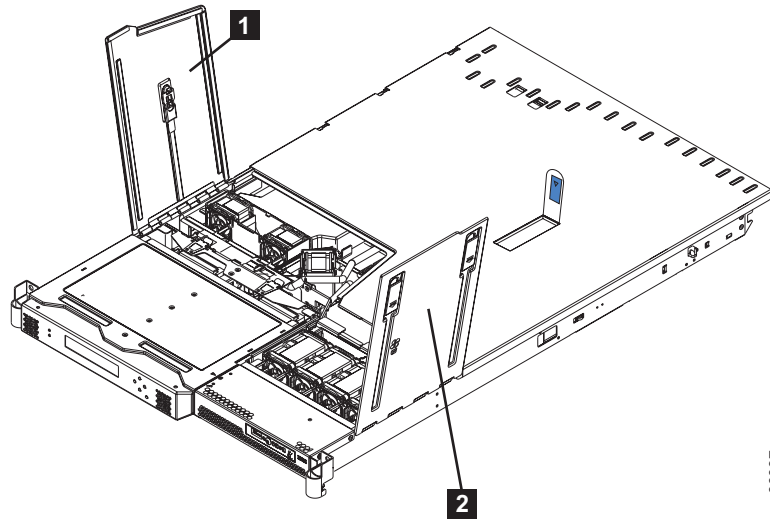

Figure 92. SAN Volume Controller 2145-8F2 or SAN Volume Controller 2145-8F4 with fan doors open
4. Close the fan door (1 in Figure 92 on page 109) and replace the node in the rack.